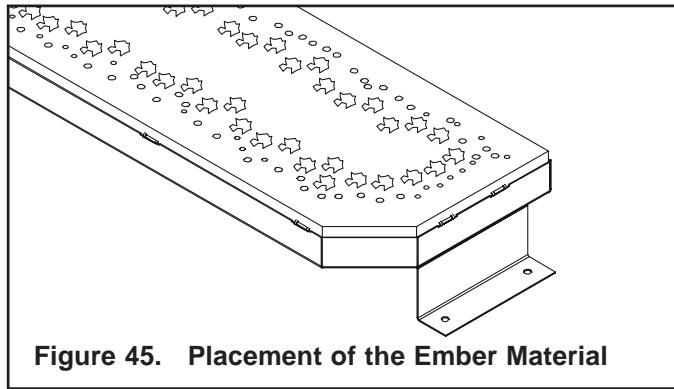

Figure 45. Placement of the Ember Material
- Place dime size pieces of ember material about 1/2 inch apart near port holes in burner top. Do NOT press embers into burner ports. Cover the top of the burner with a single layer of ember material. For best performance do NOT place embers on the ports at the rear of the burner (see Figure 45).